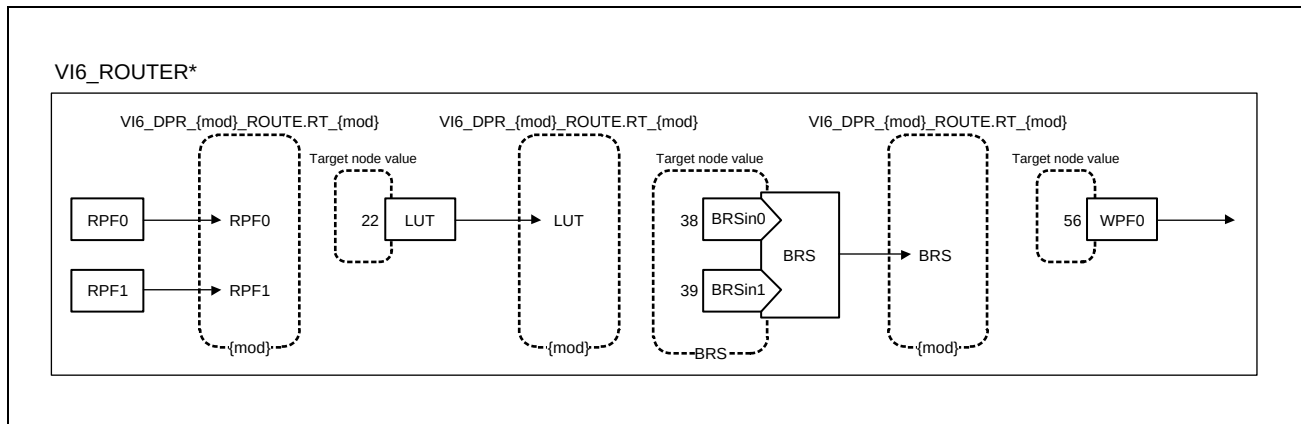

Figure 9.4-22 Node Register Names and Target Node Values on Data Path Router
In the VSPD internal data path, the order of processes can be specified as desired. The module for performing each process has a unique node value. Set each bit field in VI6_DPR_*_ROUTE to an appropriate node value shown in **Figure 9.4-22** to specify the target node to be connected behind each module.
7. Each node can be used only once throughout all paths from RPFn to WPFn. When a module shown in **Figure 9.4-22** is assigned in one RPF to WPF path, it cannot be used in another RPF to WPF path.